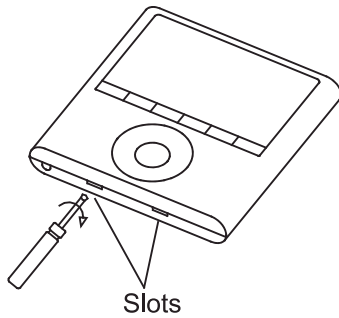

Fig 3.4
- Remove the upper part of the wire controller (Fig.3.4)